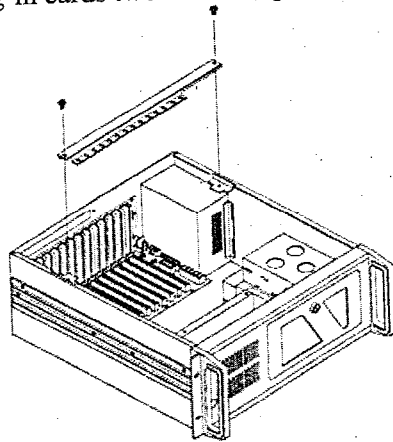

Figure 2.3-4: Detaching the hold-down clamp
1. Detach the hold-down clamp by removing the two screws located at each end and lifting it off the chassis. (See Figure 2.3-4)